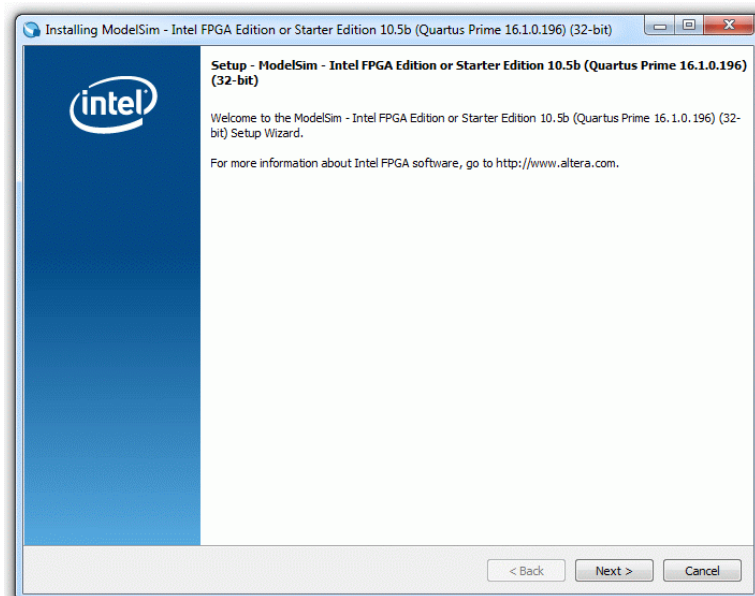

Figure 1: ModelSim installation (Part 1)
1. Download the installation executable from the CIS website of this lecture (see upper right corner of webpage). Extract the ZIP file (ask your lecturer for the password) and execute the EXE-file. Click "Next >" on the screen shown in Figure 1.